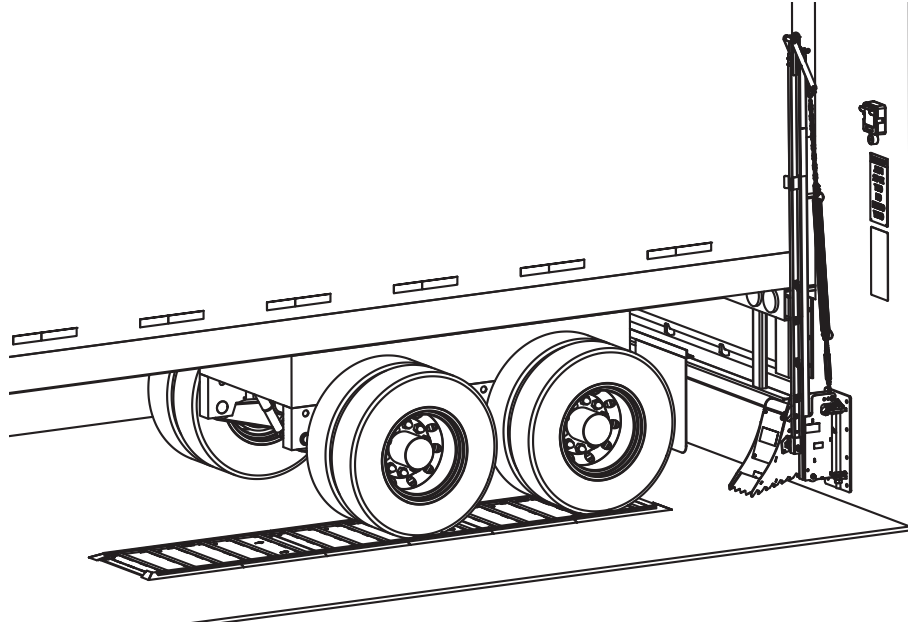
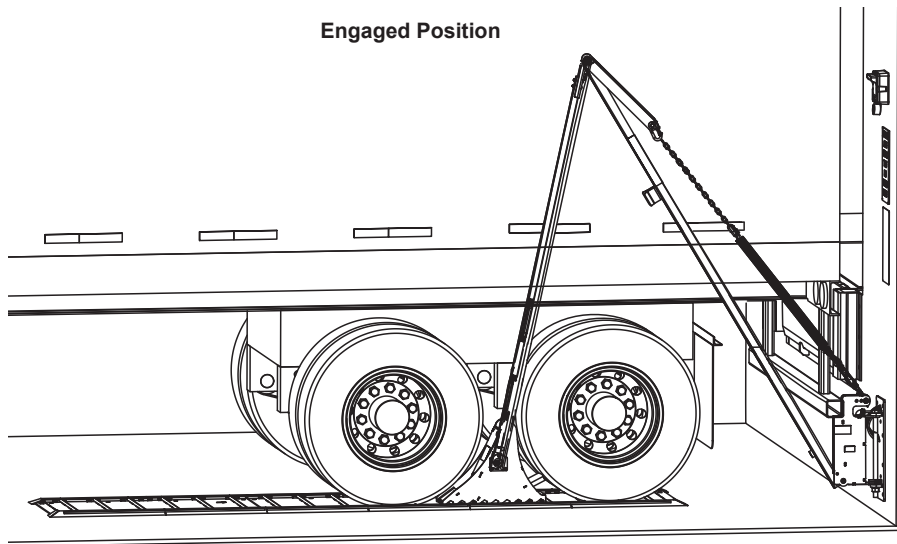

Figure 42
Figure 43
1. Check that the transport vehicle is positioned squarely against both dock bumpers. See Figure 42 and Figure 43. Lights will display:
2. Using the handles on the articulating arm (see Figure 42) position the UXL chock in front of transport vehicle wheel and engage the ground plate. While positioning the chock, the lights will display:
When working with electrical or electronic controls, make sure that the power source has been tagged (B) and locked out (A) according to OSHA regulations* and approved local electrical codes (see Figure 43).